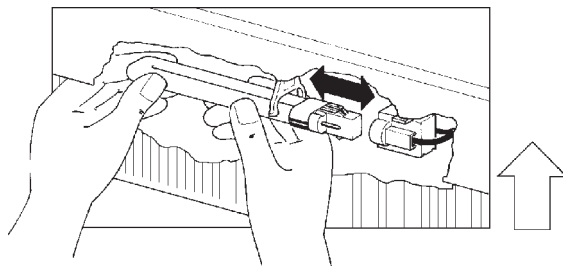

Fig. 32
- Hold the lamp in the correct mounting position as shown (Fig. 32) and push it to the right until it engages in the holder.